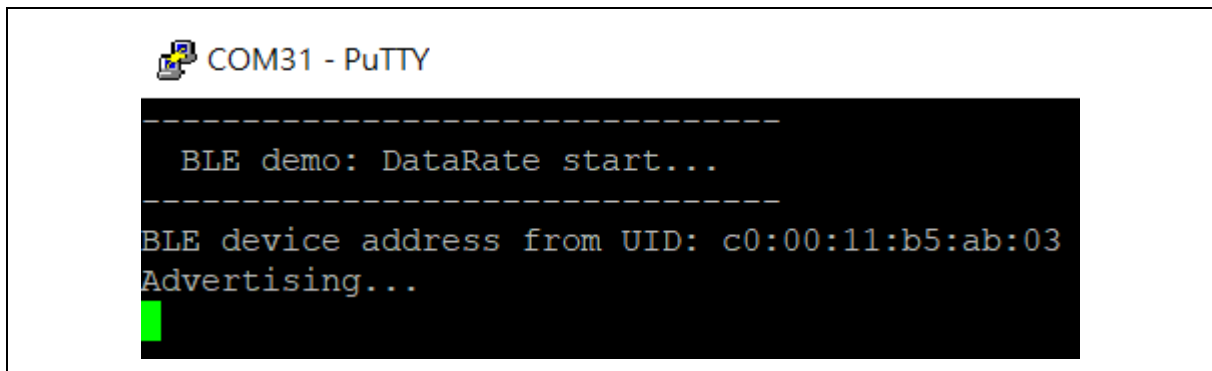

Figure 4-20 DataRate Boot Message
1. Start a terminal software (e.g. Putty) and then open the VCOM of NuMaker-M03xBT board, where the UART baud rate is 115200. You will see the following message after booting, as shown in Figure 4-20.